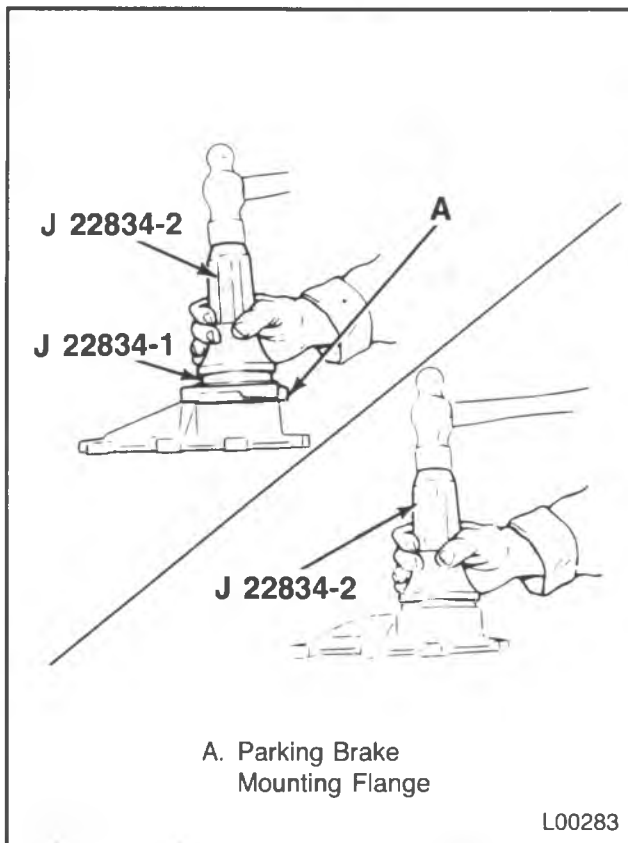

Figure 4 — Retainer Seal Installation
- 1. Sealant (GM Part No. 1052942) on the outside of a new seal (105).
- 2. New seal (105) using J 22834-2 (figure 4).
- 3. New gasket (120).
- 4. Retainer (121) and the screws (125).
- 6. Flange (122) and the nut (123).
- 7. New seal (113) and the speedometer cable (112).